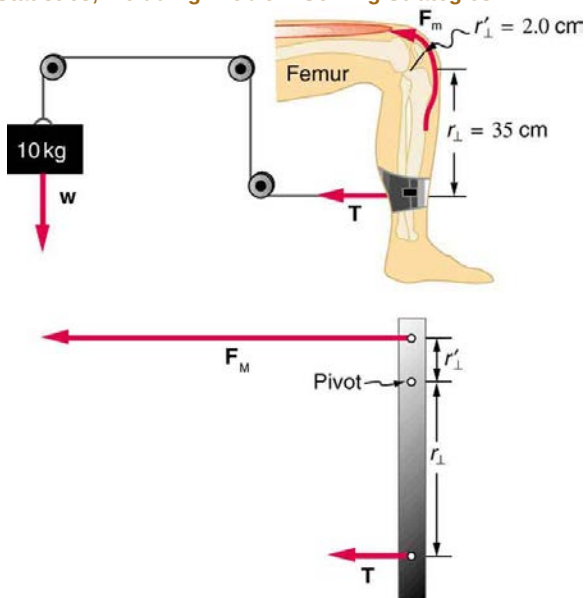

Figure 9.39 A mass is connected by pulleys and wires to the ankle in this exercise device.
29. A device for exercising the upper leg muscle is shown in **Figure 9.39**, together with a schematic representation of an equivalent lever system. Calculate the force exerted by the upper leg muscle to lift the mass at a constant speed. Explicitly show how you follow the steps in the Problem-Solving Strategy for static equilibrium in **Applications of Statistics, Including Problem-Solving Strategies**.